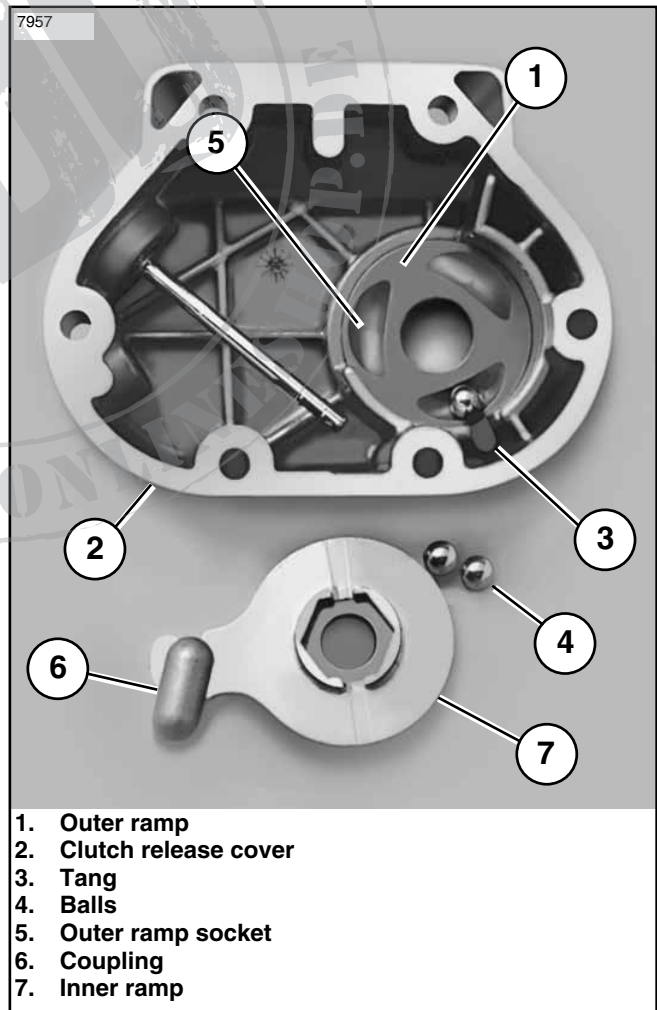

Figure 1. Install Outer Ramp and Balls
Stock 5-Speed Side Cover is shown for illustration purposes only in Figure 1.
2. See Figure 1. Place outer ramp (1) in clutch release cover (2) recess with tang (3) in cover slot.
3. Apply a multi-purpose grease to the three balls (4) and outer ramp sockets (5). Place a ball in each of three outer ramp sockets.
4. Hold coupling (6) with button facing outboard. Place cable end in recess of coupling. With ball sockets facing outboard, place hook of inner ramp (7) on button of coupling. Holding inner ramp and coupling together, turn the assembly over.